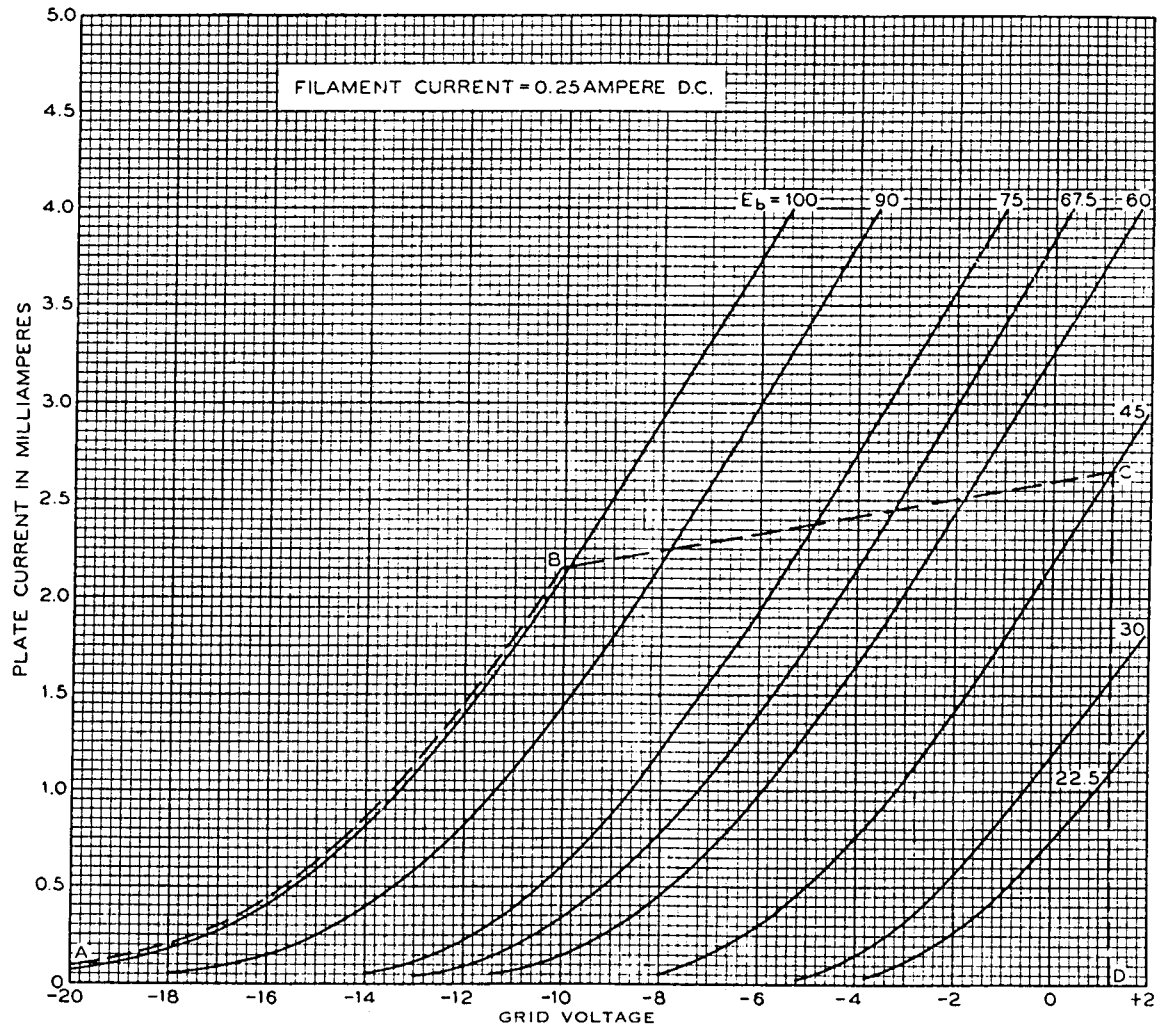
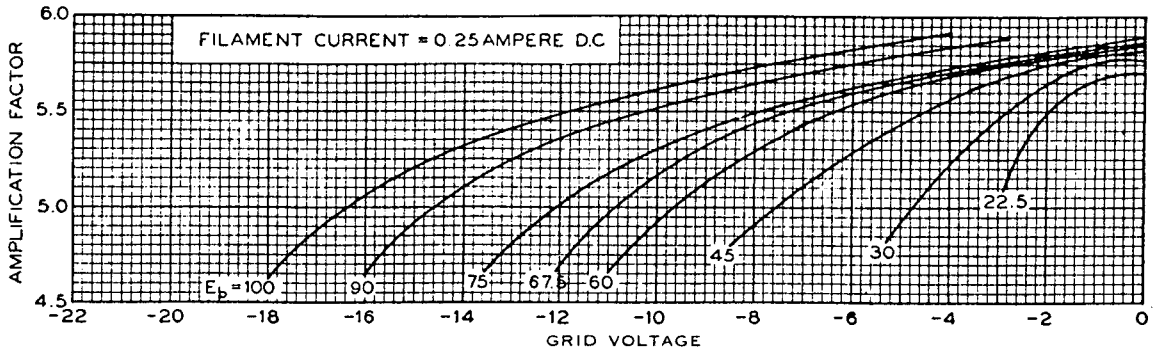
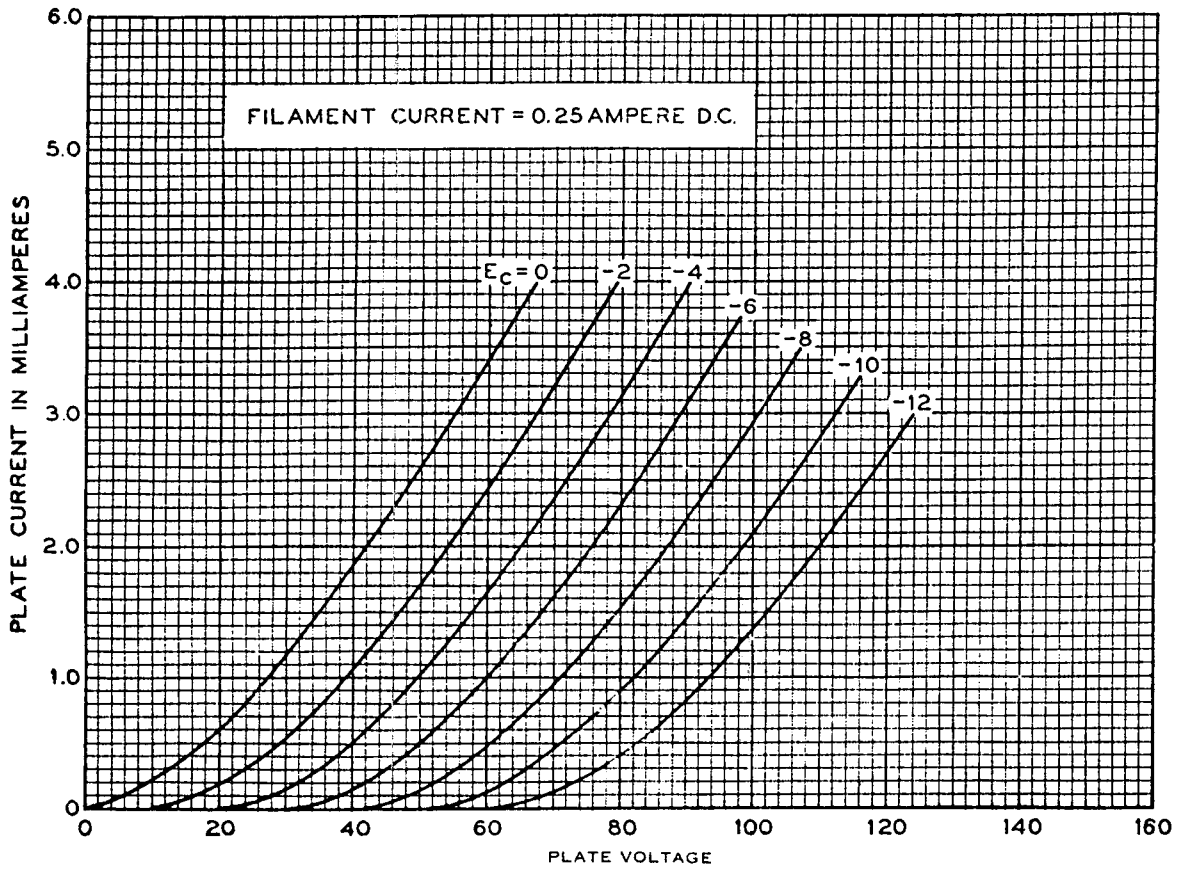

FIG. 3
FIG. 4
FIG. 7
**Characteristics**—Plate current characteristics of a typical 215A tube are shown in Figure 3 as functions of grid voltage for several values of plate voltage. Corresponding amplification factor, plate resistance, and transconductance characteristics are given in Figures 4, 5 and 6, respectively. Plate current characteristics as functions of plate voltage are shown in Figure 7 for several values of grid voltage. The grid and plate voltages for all of these characteristics are measured from the negative end of the filament.
**Operating Conditions and Output**—Permissible operating conditions are included within the area, ABCD, in Figure 3. Amplification factor, plate resistance, transconductance, and performance data are given in the table on page 3 for a number of typical amplifier operating conditions represented by selected points within this area. Typical detector operating conditions for both plate current and grid current detection are also listed in the table. The less severe operating conditions should be selected in preference to maximum operating conditions wherever possible. The life of the tube at maximum conditions may be shorter than at less severe conditions.